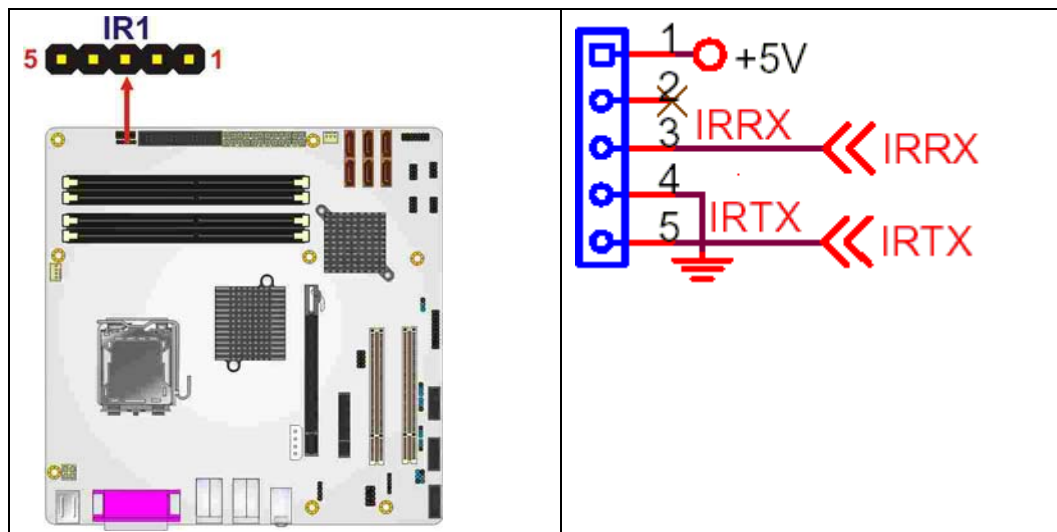

Figure 4-11: Infrared Connector Location
- CN Location:** See **Figure 4-11**